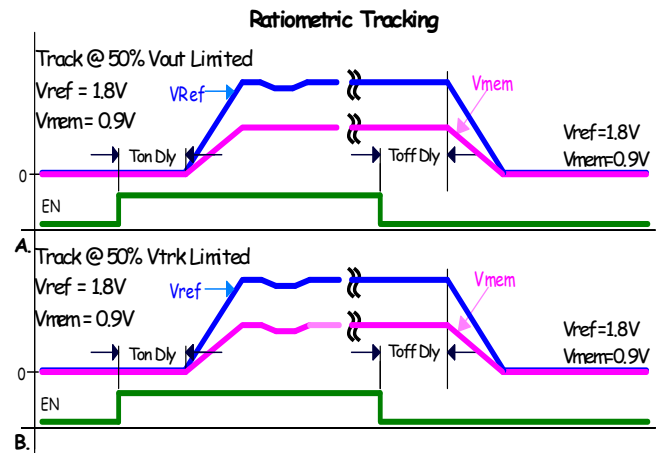

FIGURE 23. RATIOMETRIC TRACKING
- Track at 50% V_{OUT} limited. Member rail tracks the reference rail and stops when the member reaches 50% of the target voltage Figure 23 (A).
- Track at 50% VTRK limited. Member rail tracks the reference at the instantaneous voltage value applied to the VTRK pin until the member rail reaches 50% of the reference rail voltage, or if the member is configured to less than 50% of the reference the member will achieve its configured target Figure 23 (B).
TABLE 13. TRACKING CONFIGURATION Figure 23 \(A\)
TABLE 14. TRACKING CONFIGURATION Figure 23 \(B\)